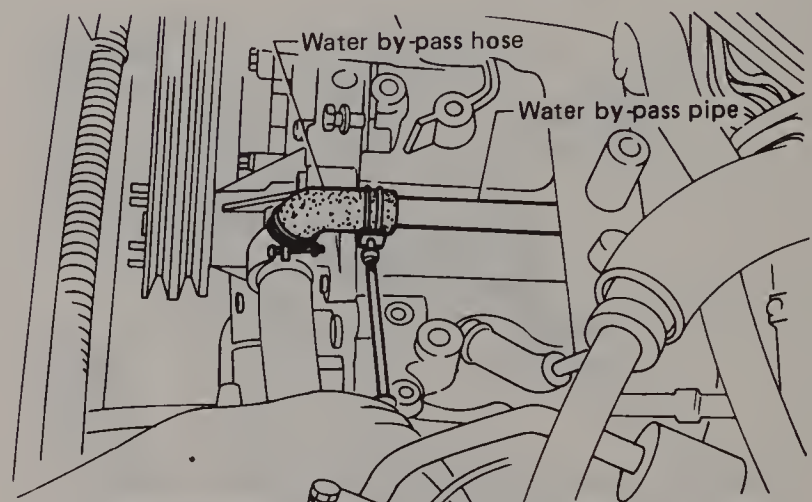

Fig. 13.31 Disconnect the water pump bypass hose from the bypass pipe (Sec 6)
- 6 Disconnect the water bypass hose from the pipe (Fig. 13.31).